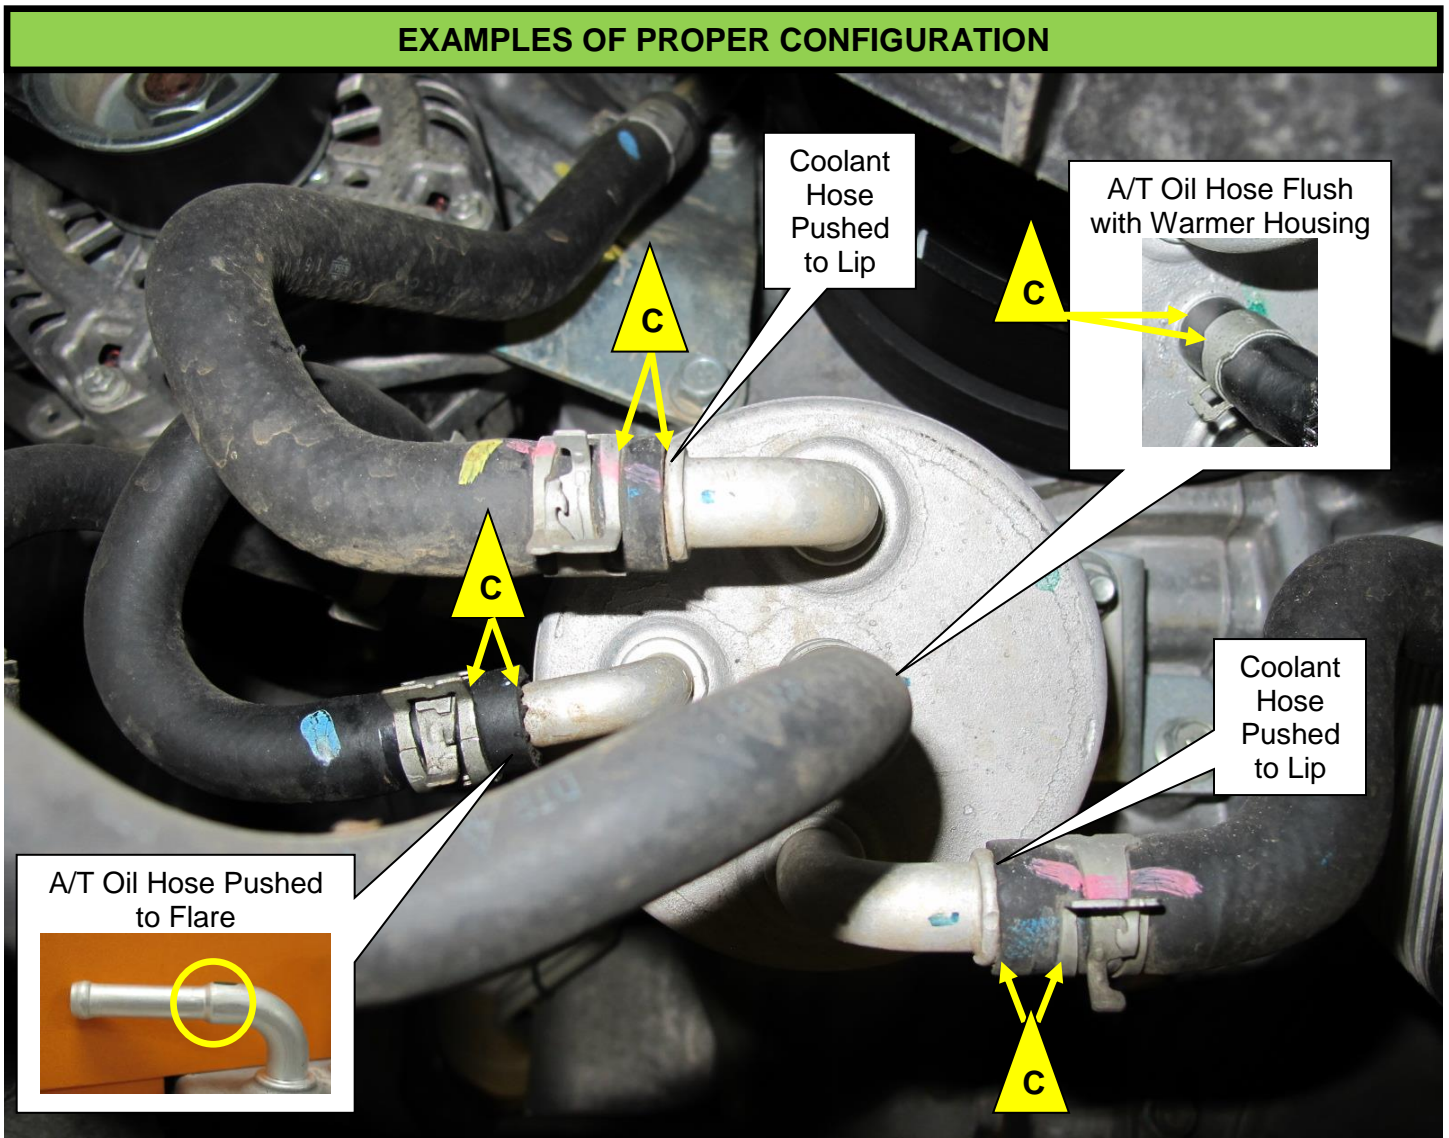

Figure 6
6. Inspect **four** A/T Warmer Hoses for proper configuration (Figure 6).
8. CORRECT ANY HOSES NOT PROPERLY INSTALLED, REFERENCE STEP 6 (FIGURE 6).